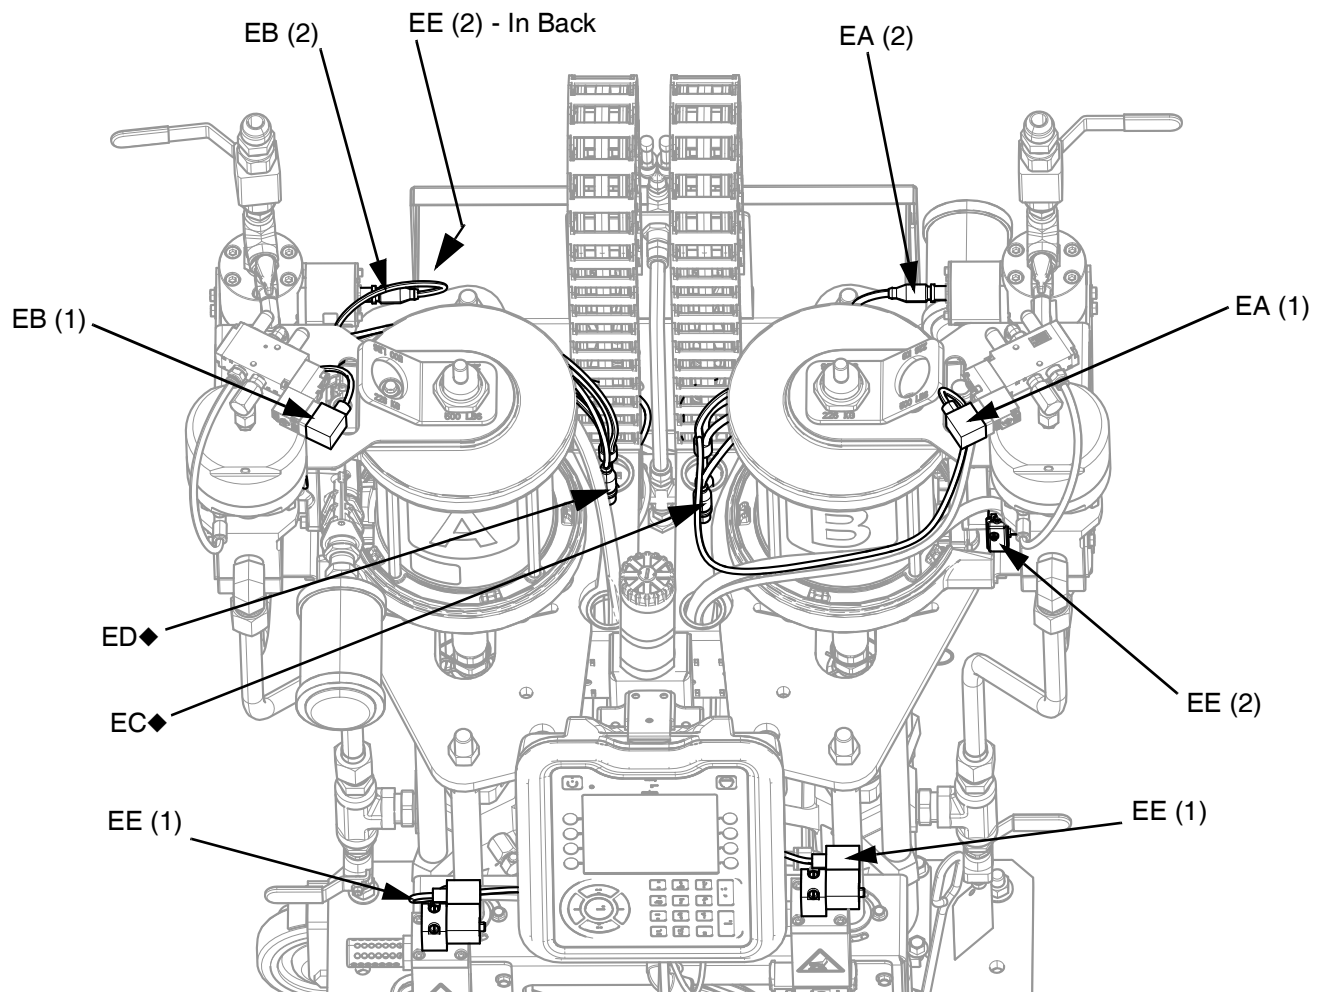

FIG. 10: FCM Component Connections
* These connections are referenced in Figure 10 on page 19.